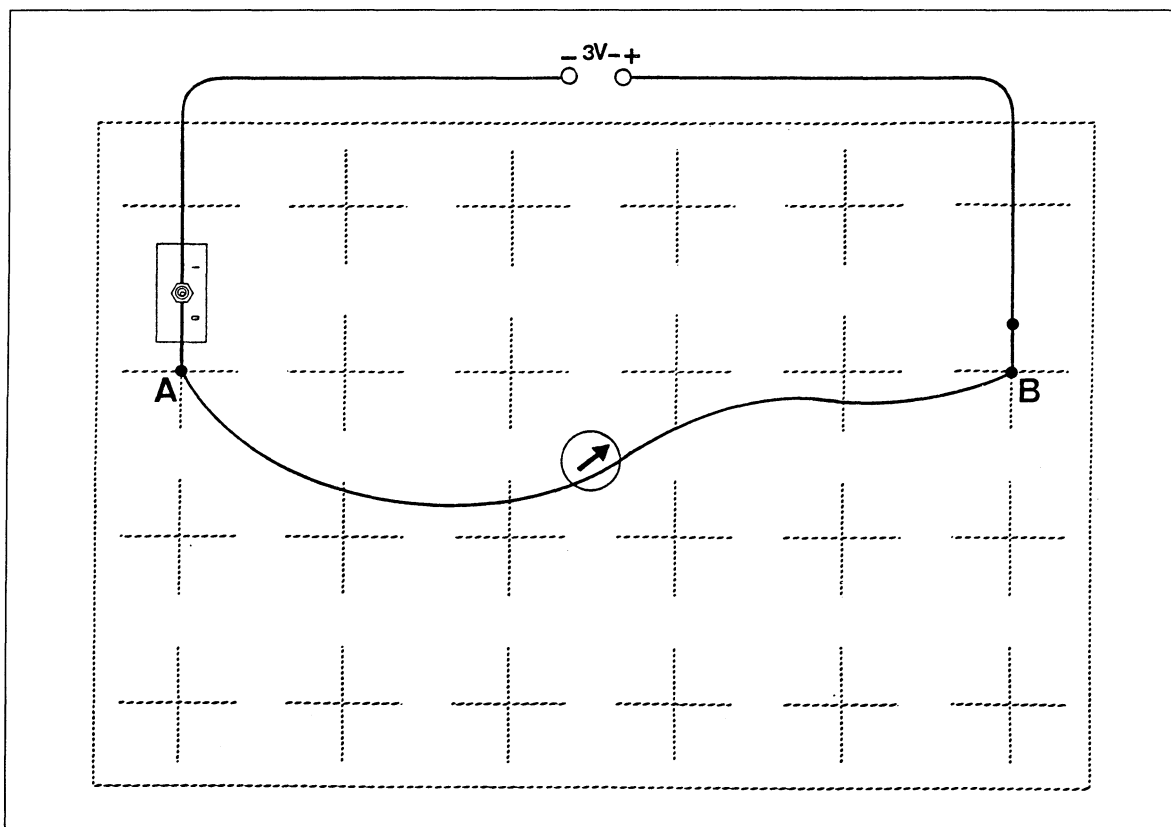

Fig. 1 Experiment setup after Oersted: demonstrating the magnetic effect of electric current
1. Assemble the circuit as shown in Fig. 1. Make sure that the switch is open. Connect points A and B on the rastered socket panel using a connecting lead.